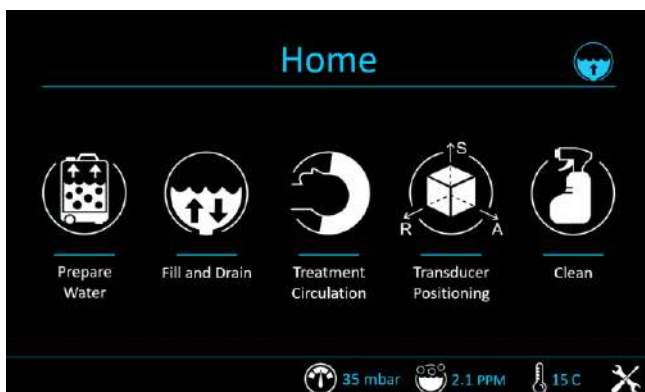

Figure 12-7: 'Home' Menu
Step12. On the Water system main screen – 'Home' Menu (**Figure 12-7**), press the 'Clean' option